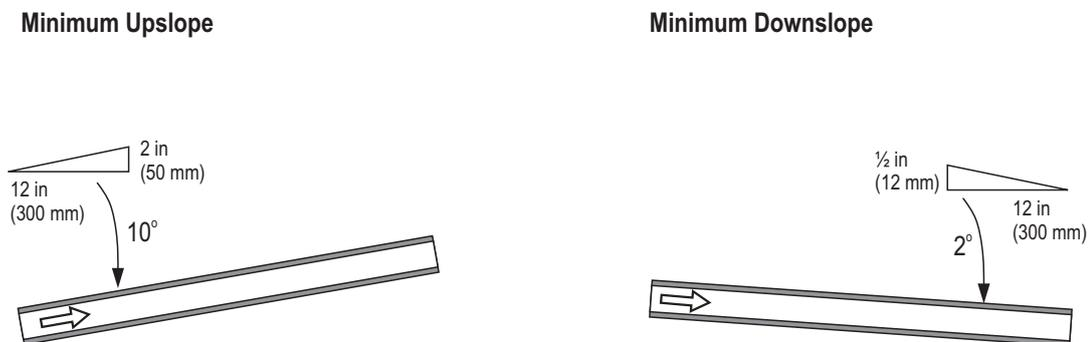

Figure 20: Steam Line Slope
- ❑ The steam line must have a constant minimum upslope of 10°, or a constant minimum downslope of 2°, as shown in Figure 20.